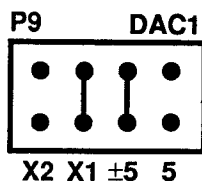

Fig. 1-10 — DAC 1 Output Voltage Range Jumper, P9
This header connector, shown in Figure 1-10, sets the output voltage range for DAC 1 at 0 to +5, ± 5 , 0 to +10, or ± 10 volts. Two jumpers must be installed, one to select the range and one to select the multiplier. The two rightmost jumpers select the range, bipolar (± 5) or unipolar (5). The two leftmost jumpers select the multiplier, X2 or X1. When a jumper is on the X2 multiplier pins, the range values become ± 10 and 10. The table below shows the four possible combinations of jumper settings, and the diagram shows the factory setting. This header does not have to be set the same as P10.